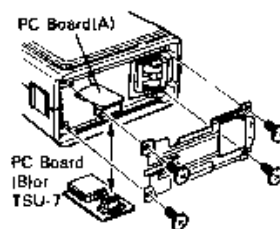

Fig 1.
3. Remove the Battery Pack and remove the four philips head screws from the terminal plate of the transceiver. (Fig.1)
6. Lift up PC board A, and disconnect PC board B from it. (Fig.1)